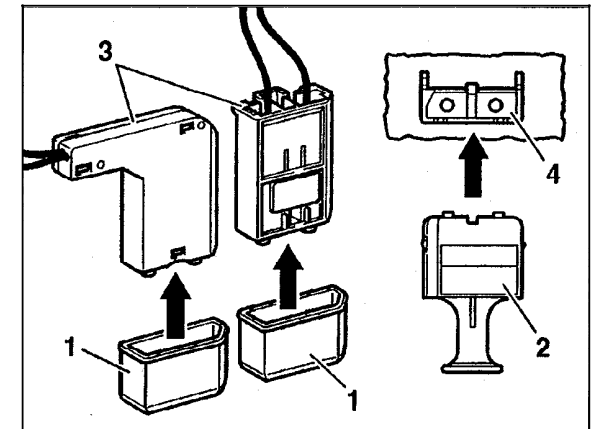

Figure 4
- 1 Use caution when pulling off the connector (3, figure 4) from the control module (4, Figure 4).
- 2 Cap-off connector end using a protective cap (3, Figure 4), and on component (4, Figure 4) using protective plug (2, Figure 4).